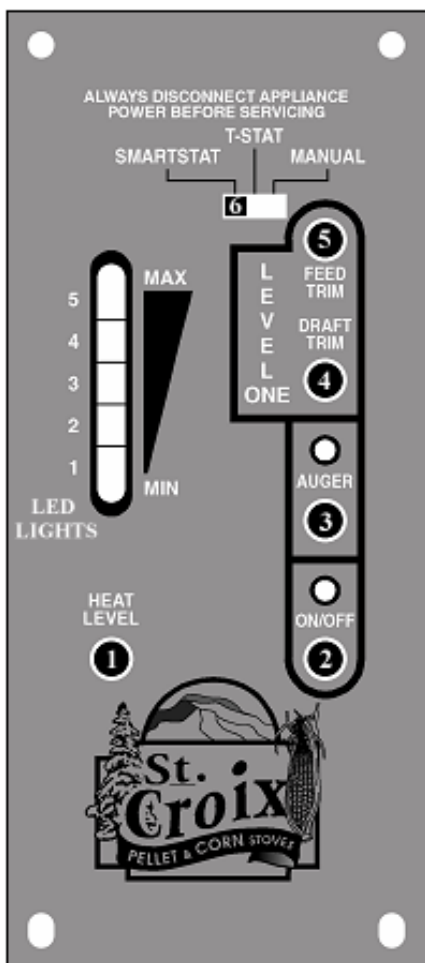
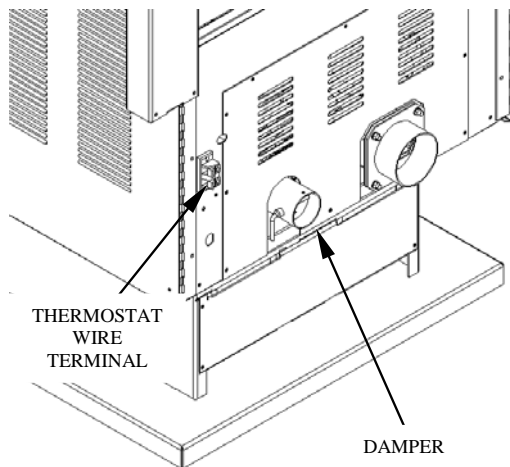

Figure 2
Figure 3
The Afton Bay is approved to burn a mixture of pellets and corn (maximum 50% corn). The Thermostat Switch should be set to the Manual position. (See Fig. 2 on page 5) Operation of the stove doesn't change when burning a mixture of pellets and corn. The burn pot will need to be cleaned on a daily basis, using the "Pot Scraper Tool" shown in figure 3 on page 9. Use the Pot Scraper Tool to remove any clinkers that build up because of the corn when needed. For more information, read the Daily, Periodic and Yearly Maintenance section towards the back of this manual.
A closer look at the Control Board on page 5, in figure 2 will explain how the board works. There are five buttons labeled 1 through 5, a slide switch labeled 6 and a LED Light bar with 5 Heat Settings. ***The LED Light bar is also used during the Diagnostic process, see page 6 and 7 for more details.***
The buttons on the board function as follows: (*Refer to Figure 2. The touch pad buttons and Slide Switch are labeled with the white numbers 1 through 6*)
Lighting Your Stove. (Refer to Figure 2)
Shutting The Stove Off (*Refer to Figure 2*)
The #2 LED and the #3 LED lights on the LED Light bar as show in Figure 2 will flash to give a
1. The **Proof of Fire** switch. This switch will sense the temperature of the Exhaust rising during start up. If the Exhaust temperature does not reach 110 degrees F, or if during use the temperature drops below 110 degrees F, the Stove will go into **“Internal Alarm”** and the Auger will quit feeding fuel. Once the stove completes the safety shutdown, the #3 LED will start blinking. *(See Figure 2 on Page 5 and point 3 on page 15)*
2. The **High Limit** switch. This sensor will sense if the unit reaches temperatures that are too high for normal operation. If this happens the Auger will quit feeding and the #2 and #3 LED lights will flash simultaneously. *(See Figure 2 on Page 5 and point 4 on page 16)*
3. The **Vacuum** Switch - For the stove to operate, the Firebox needs to be sealed. During the first 30 seconds after the stove has been turned on the Control Board will check if the switch senses negative pressure (Vacuum) in the Firebox of the stove. If there is no negative pressure, the stove will shut down and the #2 LED will start blinking. *(See Figure 2 on Page 5 and point 2 on page 15).*